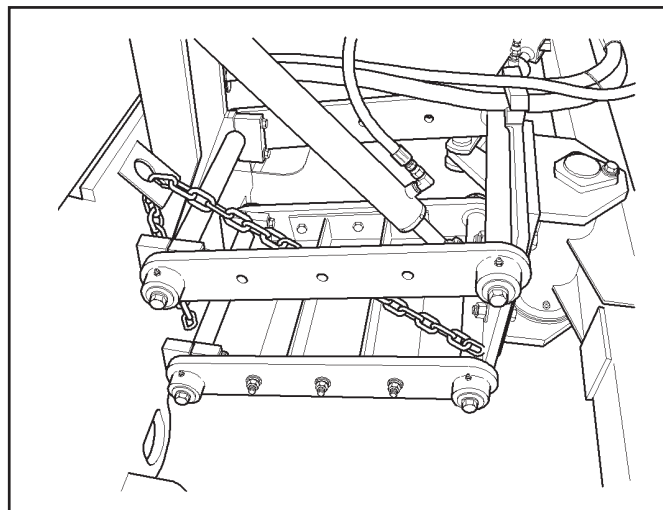

FIGURE 3-7. MECHANICAL BRUSH LIFT CYLINDER LOCK
5. Check the mechanical brush lift cylinder lock. Disengage it if it is in the locked position. (See Figure 3-7.)
ATTENTION: If it is necessary to leave the SweepPro Broom for an extended period of time, place Transmission Selector Lever (Figure 3-3, item 2) in neutral and use the mechanical brush lift cylinder lock to secure the brush in the raised position. (See Figure 3-7.) This will prevent a flat spot from forming on the brush bristles.